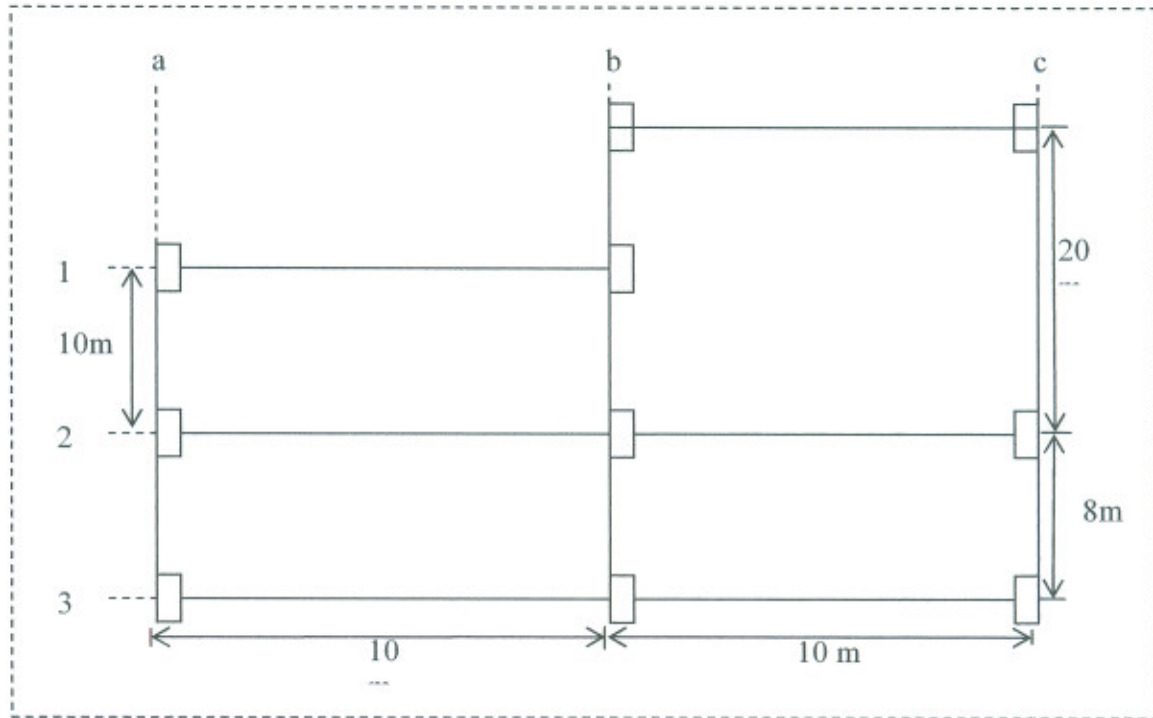

Figure Q1
- b) Beam 2/a-b in Figure Q1 is an I beam with size 686 X 254UB152 simply supported at both ends. The grade of the beam is S275. Determine :
- a) List three (3) tension members which are used in the steel construction. (3 marks)